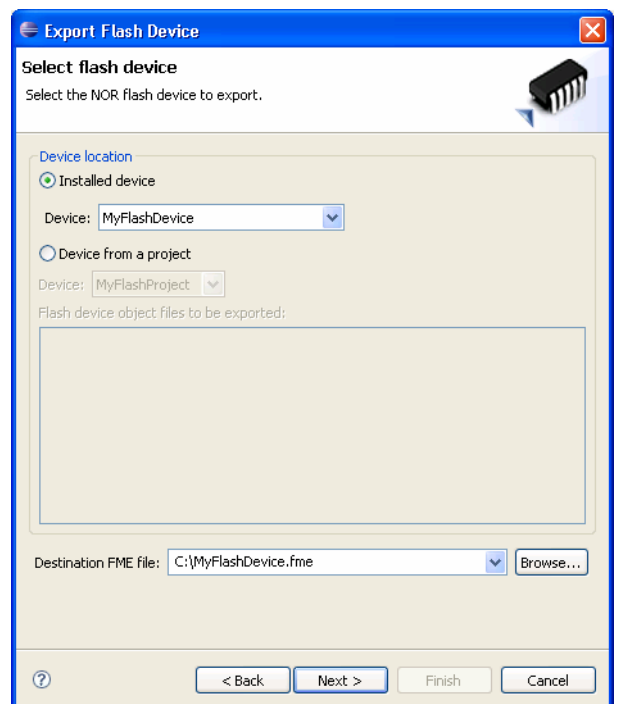

Figure 13 Selecting a flash device to export
3. Select the flash device to export, either from an already installed device or from an Eclipse flash project (see Figure 13). Enter the name and location for the exported FME file. Click **Next**.